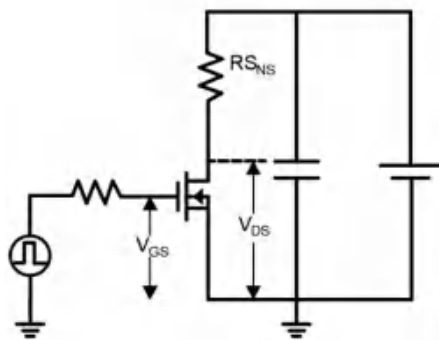

Figure 15. Dynamic  $R_{DS(on)eff}$  Test Circuit
C. Dynamic on-resistance; see Figure 15 and 16 for test circuit and configurations